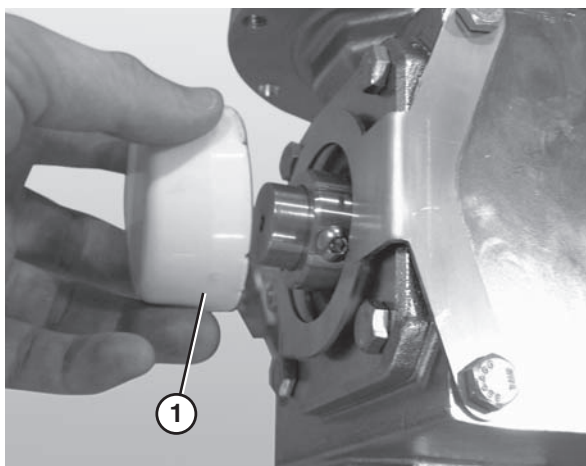

Figure 22
6. Attach the gearmotor cover (**Figure 22, item 1**).